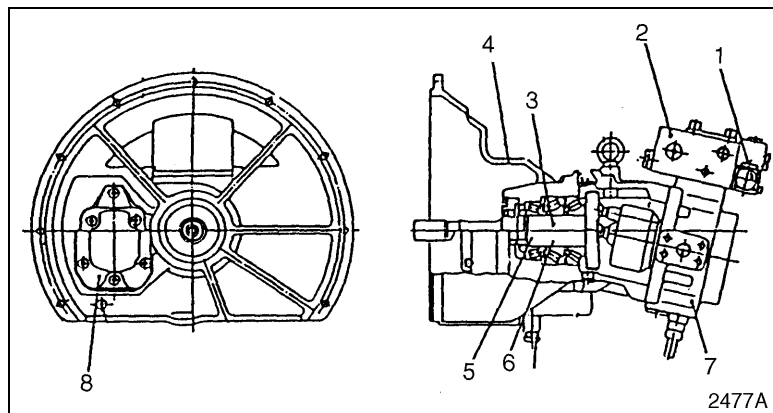
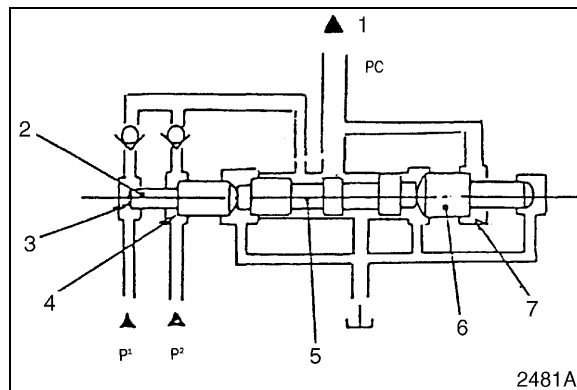
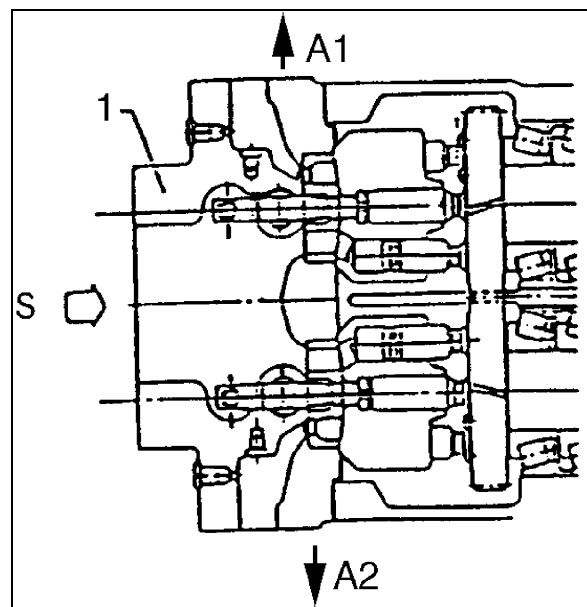

Figure 2
Figure 3
Figure 4
Both rotary groups take in hydraulic oil from the same inlet port (S). Oil is separated in the regulator and is output through ports A1 and A2. See Figure 2 and Figure 3.
A relief valve, mounted in the pilot line, maintains constant pressure. See Figure 3 and Figure 4.